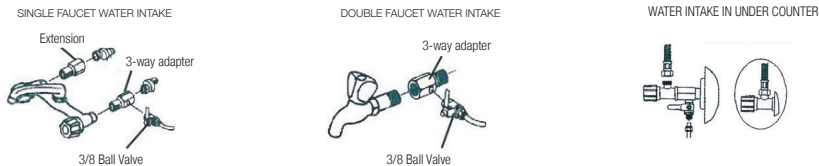

FIGURE A-2
2. After draining the remaining water in the pipes, install feedwater connection adapter (3-way adapter) by fastening with teflonband (Figure A- 2)